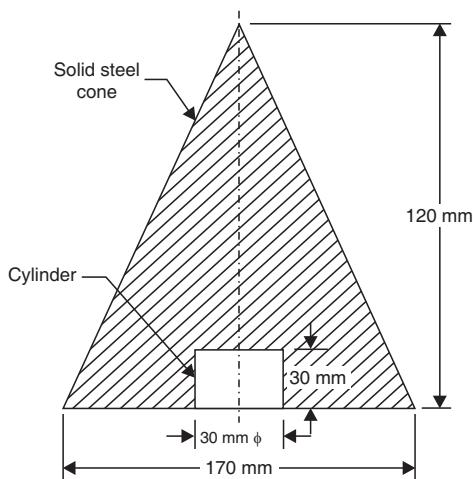

Fig. 7.55
18. A solid steel cone is made lighter by removing a part of the material from it in the form of a cylinder as shown in Fig. 7.55. Determine the position of the c.g. of the remaining metal. [Ans. 37.6 mm]